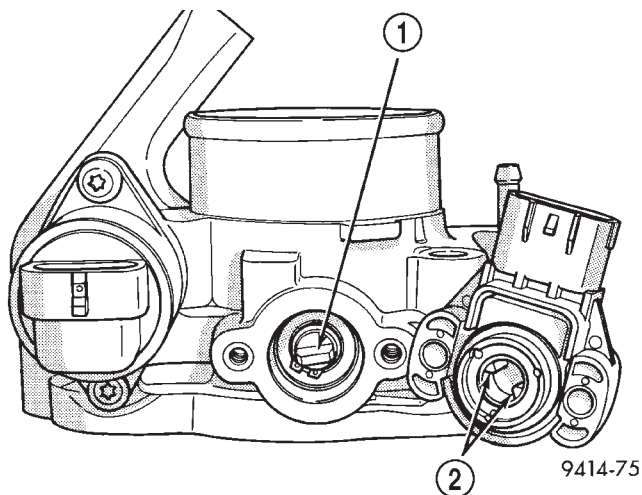

Fig. 18 Throttle Position Sensor Installation
- (1) The throttle shaft end of the throttle body slides into a socket in the TPS (Fig. 18). The socket has two tabs inside it. The throttle shaft rests